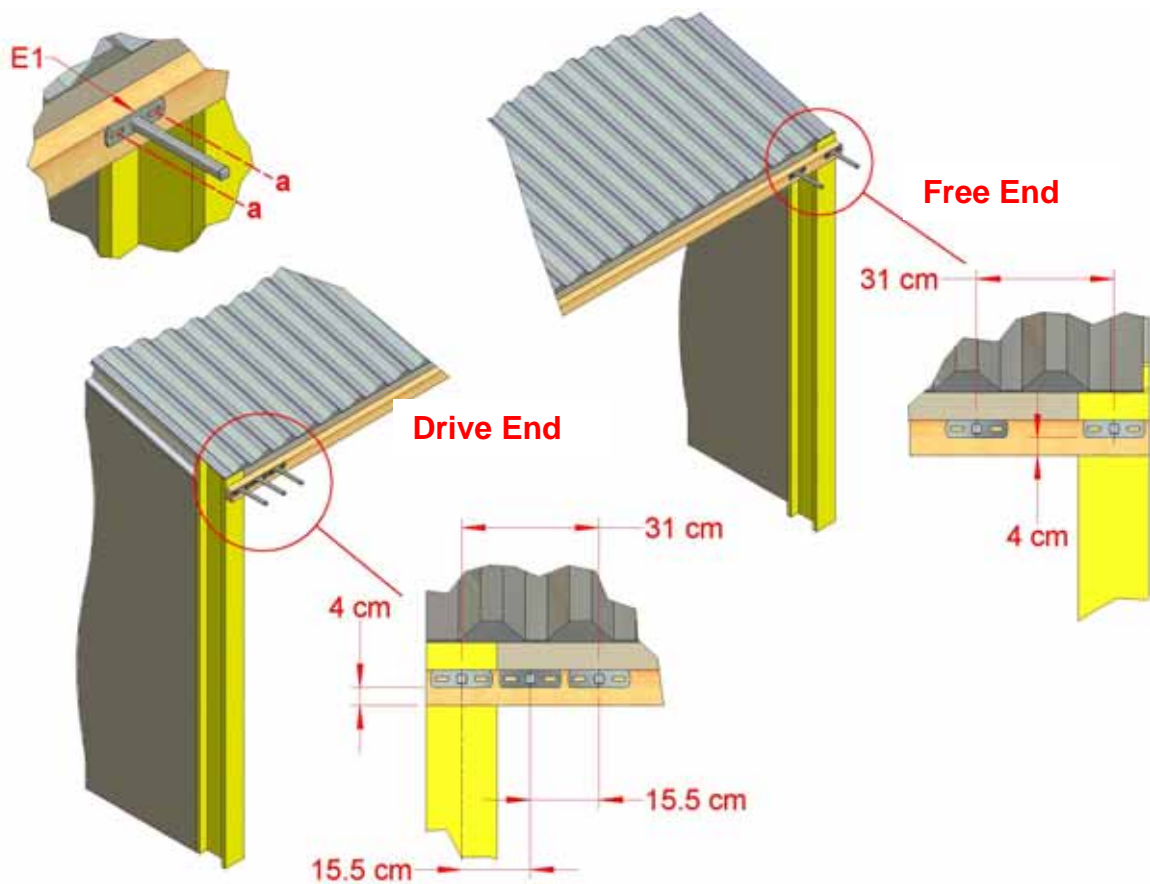

Figure 3, Drive and Free End Face Bracket Installation
2.1 Fit the upper Face Brackets (E1) at each end of the building with appropriate fasteners to the top beam, as shown in Figure 3. The three Face Brackets at the drive end should be positioned at 15.5cm centres. The two Face Brackets at the free end should be positioned at 31cm centres. A 4cm gap should be allowed beneath the Face Bracket to fix the curtain Kador Profile, Section 3.1.